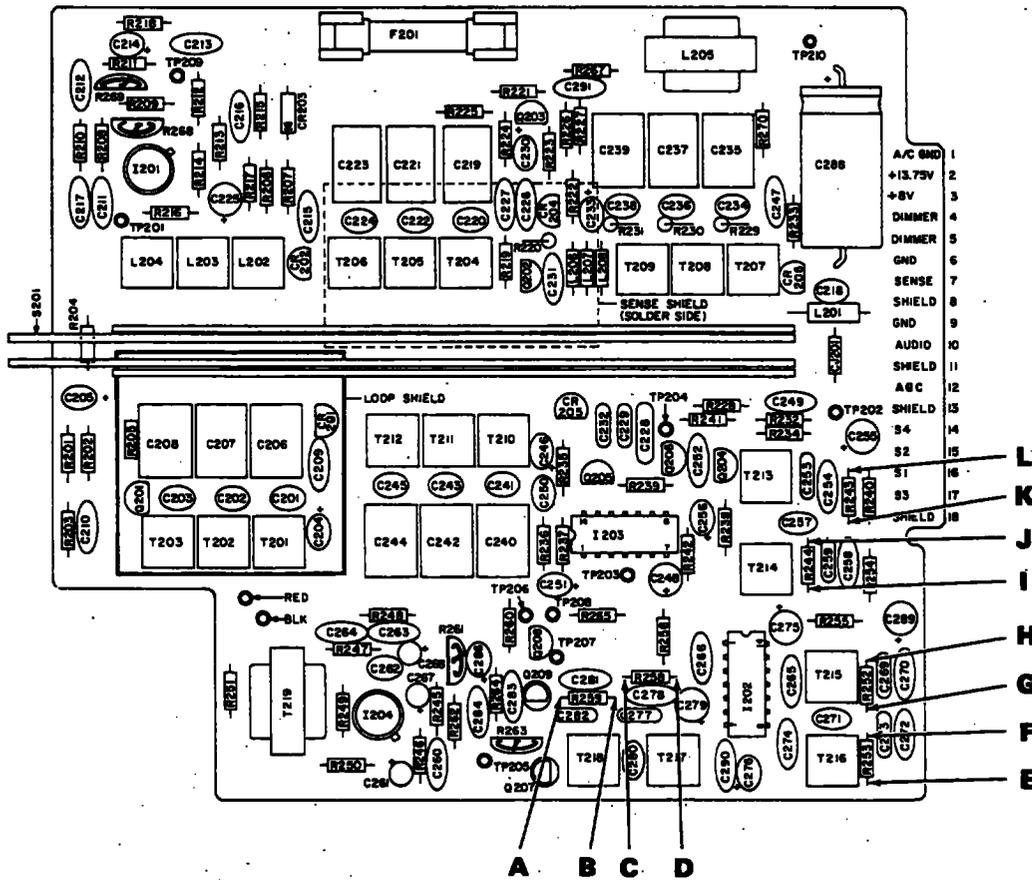

FIGURE 6-17 RECEIVER ALIGNMENT LOADING POINTS
at points C, G, or K (Figure 6-17) and tune succeeding I. F. stages in order to get the I. F. amplifier into approximate alignment. (Use 0.001 μ f disc capacitor in series with signal generator lead). (Fig. 6-27)
- C. Load and tune following steps (D thru I) using a 33K Ω resistor. (Refer to Figure 6-17).